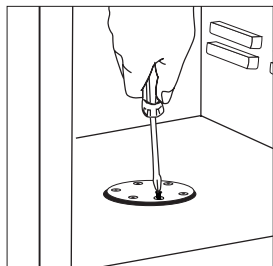

Figure 2
2. Empty the safe and remove the (6) screws securing the mounting hole cover plate (Figure 2).